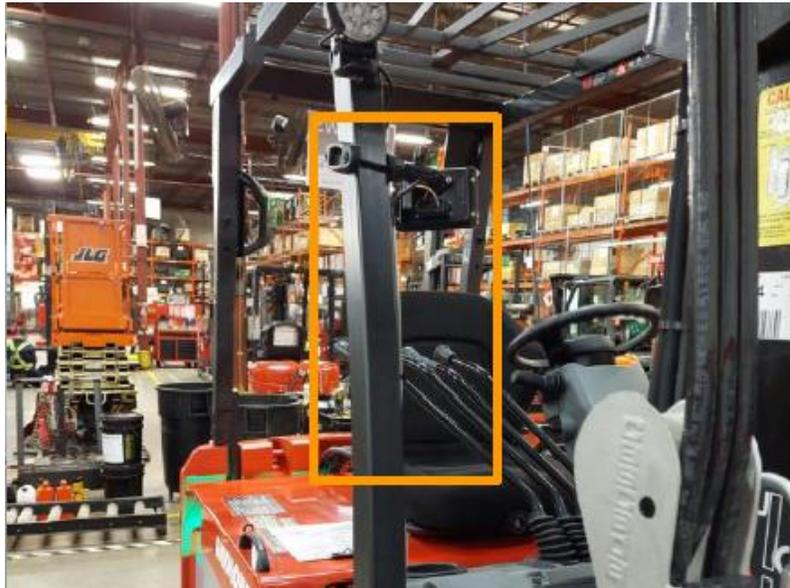

Figure 15: Image of BDI Screen secured within the truck's compartment without any cables or harnesses at risk of being pulled, pinched, crushed, or damaged.
- Secure the BDI Screen within the truck compartment and ensure it is not at risk of being damaged (Figure 15).